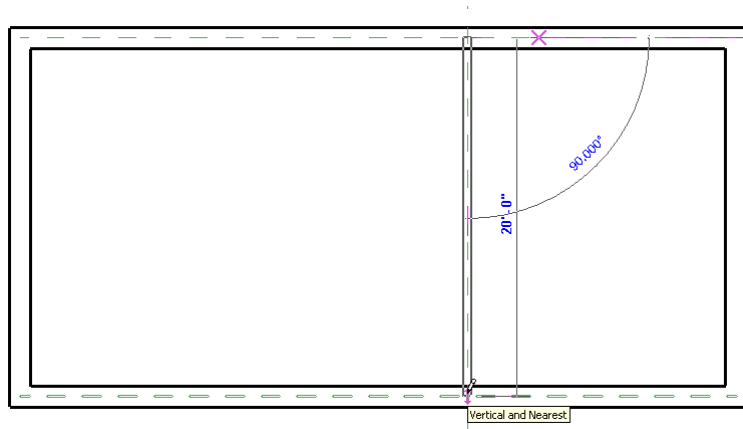

Figure 2-49 Specifying the endpoint of the first interior wall segment
3. Move the cursor vertically downward near the lower exterior wall segment. When the **Vertical and Nearest** symbol appears, as shown in Figure 2-49, click to specify the location of the endpoint of the wall segment. The first interior wall segment is sketched.